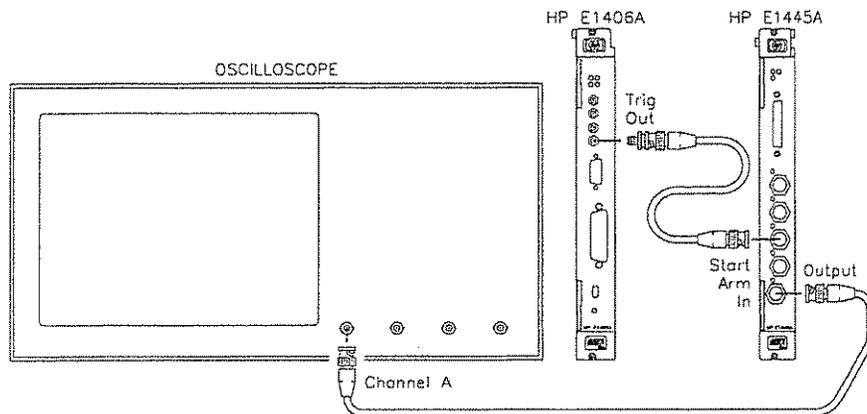

Figure 2-2. Start Arm In Test Setup
2. Set up equipment as shown in Figure 2-2: